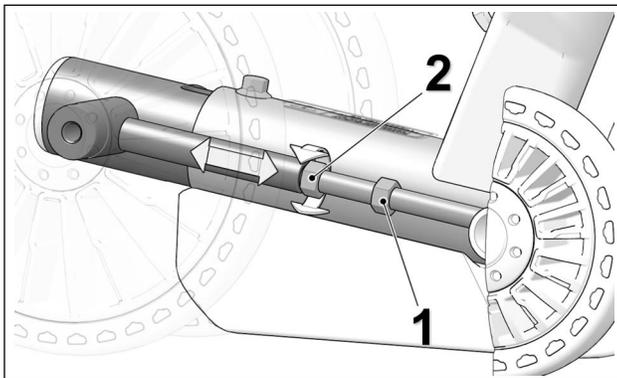

Figure 27
- Loosen jam nut (1) and turn adjusting nut (2) to set track tension. See Figure 27.